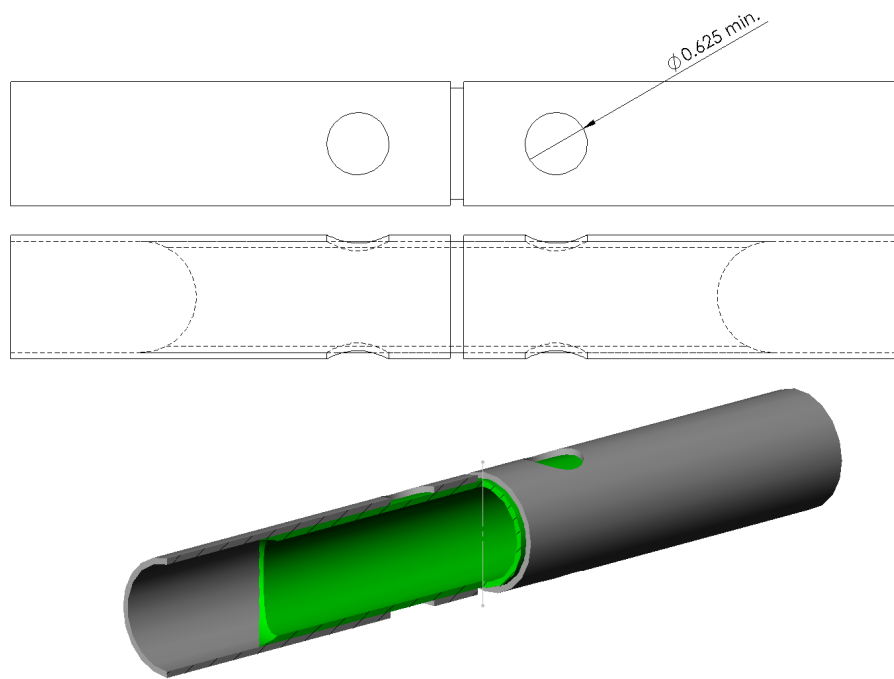

Figure B-24: Roll Cage, Butt Joint Sleeve
The general arrangement of an acceptable sleeved joint is shown in Figure B-24. A butt weld and four (4) rosette welds are required. Two (2) rosette welds are required on each tube piece. Rosette welds are to be made in holes of a minimum diameter of 16 mm (0.625 in.).